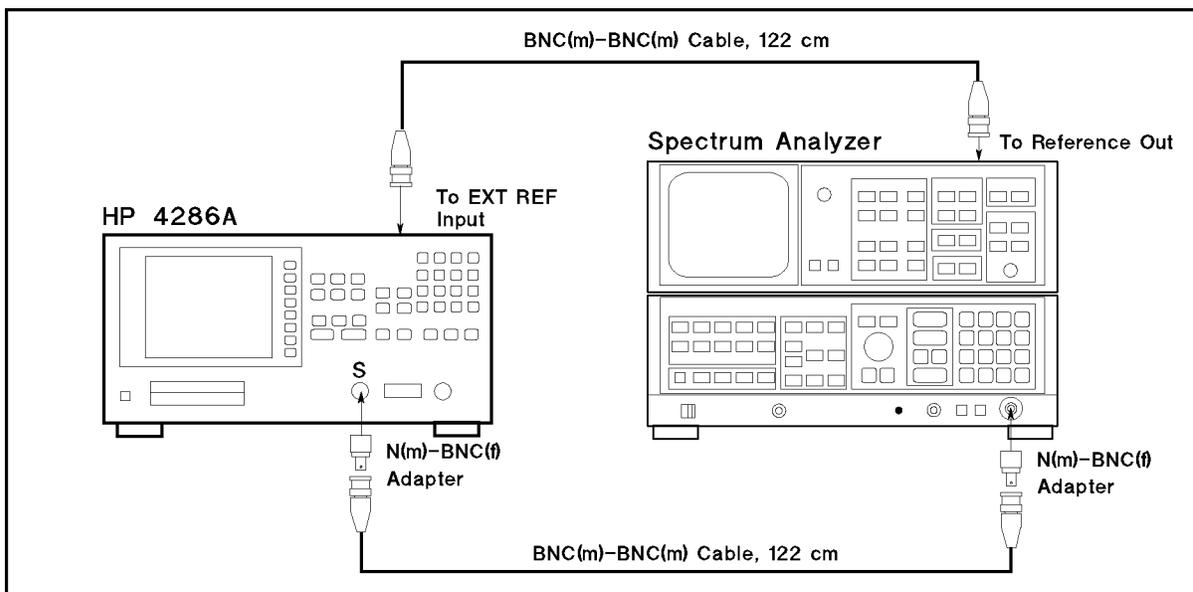

Figure 3-12. Source Mixer Local Leakage Adjustment Setup
1. Connect the equipment as shown in Figure 3-12.